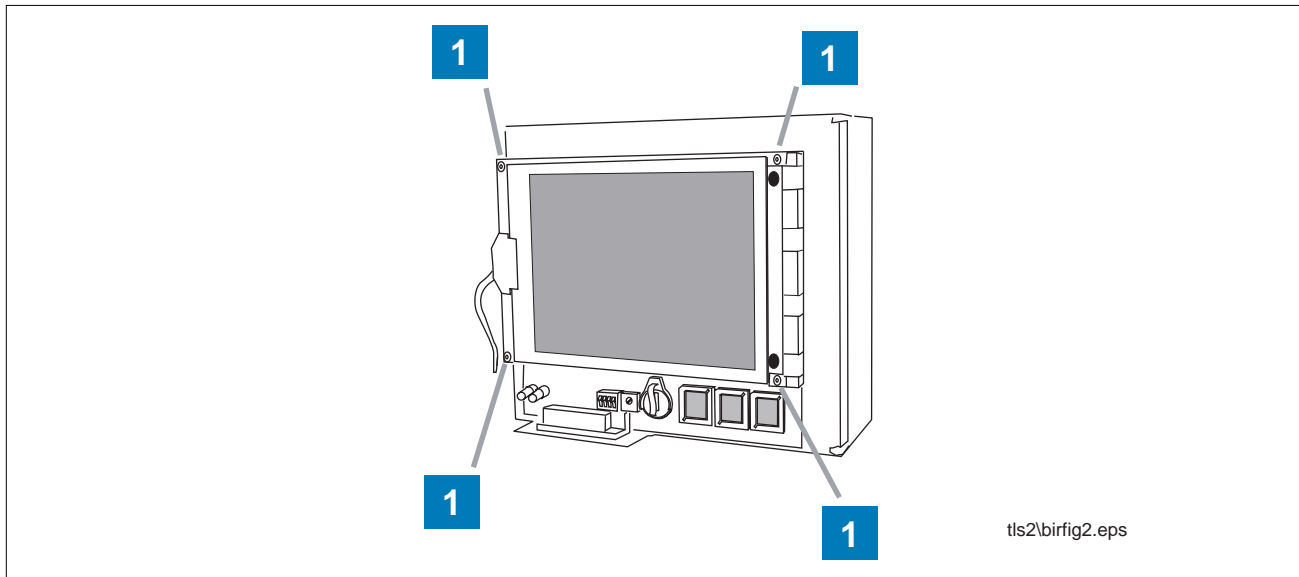

Figure 2. Disconnecting the display assembly from the CPU board
- 4 Remove the four T-10 screws and washers (item 1 in Figure 2) attaching the display to the CPU board. Retain the two shorter screws (0.5" long) and all of the washers. Carefully remove the last screw while holding the display assembly. Lower the display until it is supported by its cables.